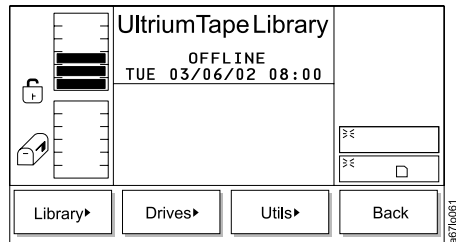

Figure 216. Setup Menu
2. Press the button below the **Setup** softkey. The Setup Menu displays (see Figure 216).